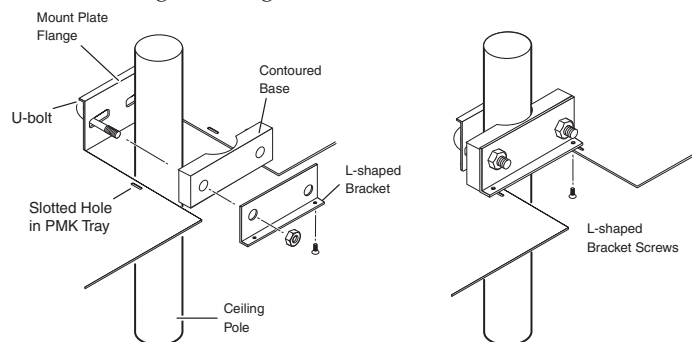

Figure 2-8 — Hanging the tray on the pole
- Assemble the U-bolt and the following parts in the following order (figure 2-8):